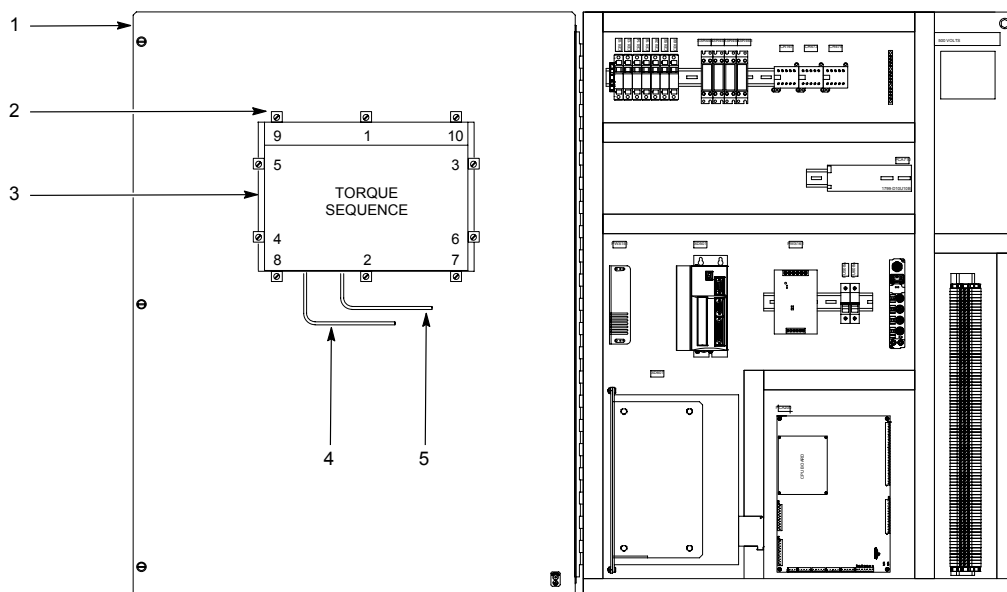

Figure 5 Operator Interface and PCA Replacement
2. See Figure 5. Open the enclosure door (1).
3. Disconnect the AC (4) and Serial (5) cables from the operator interface (3).
4. Remove the mounting clips (2) securing the operator interface to the enclosure door. Remove the operator interface from the enclosure door.
6. Install the new operator interface into the enclosure door (1).
7. Install the mounting clips (2). Using the torque sequence shown in Figure 5, tighten the mounting clips to 10 in.-lb (1.1 N-m). To prevent flexing the touchscreen, do not overtighten the clips.
8. Connect the AC (4) and Serial (5) cables to the operator interface, being careful to install the serial cable to the com port it was removed from.
9. Close the enclosure door (1).
2. See Figure 5. Open the enclosure door.